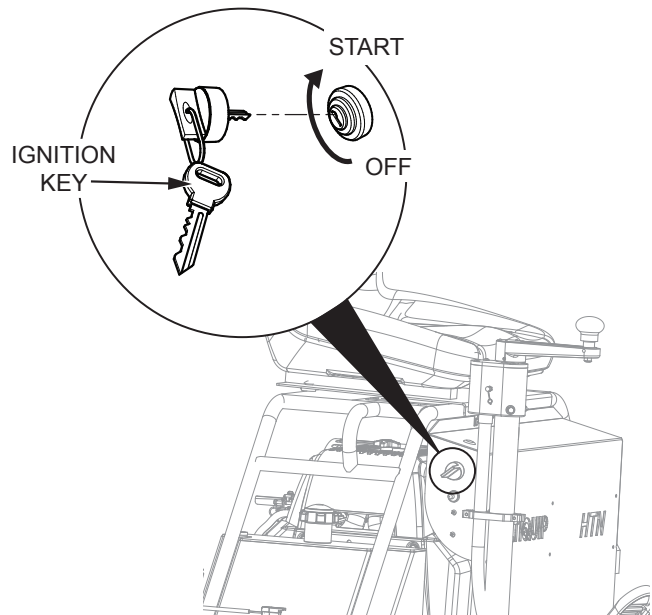

Figure 12. Ignition Key
3. Insert the ignition key into the ignition switch (Figure 12).
4. Turn the ignition key clockwise and listen for the engine to start (Figure 12). Once the engine starts, release the ignition key.